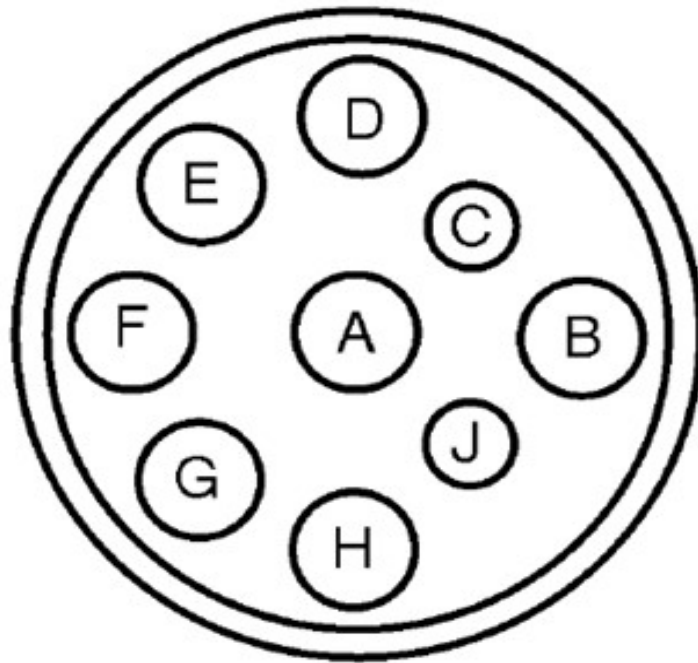

Figure 24 - OBD pin detail
2. For 9-pin Diagnostic Connector: Splice **"CHASSIS CAN HIGH"** yellow wire to the wire coming from pin F on green connector located under left side of dash. Splice **"CHASSIS CAN LOW"** green wire to the wire coming from pin G on green connector located under left side of dash. Reference Figure 24 for pin locations.